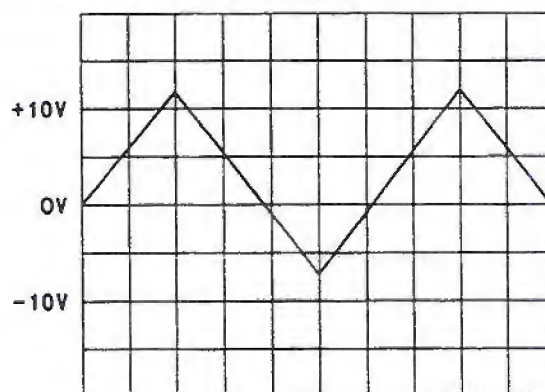

Figure 5-13. Tune Voltage Waveform
6. Adjust A4R55 (OFFSET ADJ) for the most symmetrical ramp as analyzed on the oscilloscope (equal rise and fall times) as shown in Figure 5-13.